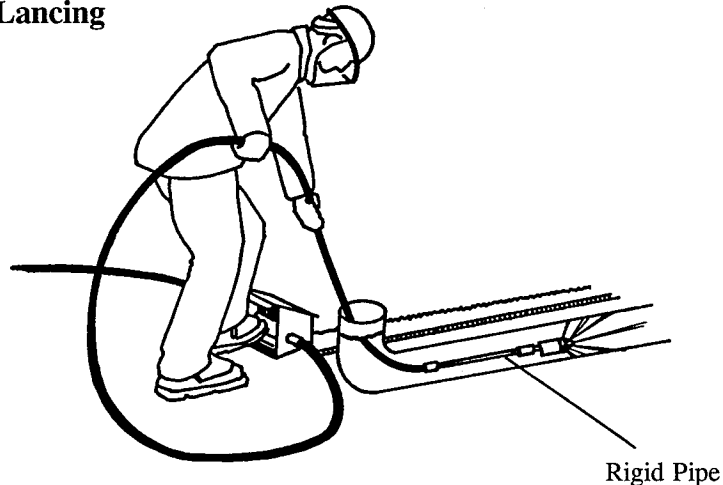

Figure 22. Moleing or Flex Lancing
10.9.1 **Control** - The feed assembly to the flexible lance or hose **shall** be fitted with either a dump system or a dry shutoff control valve. The operator inserting the nozzle **shall** maintain control of the dump system (Figure 22).